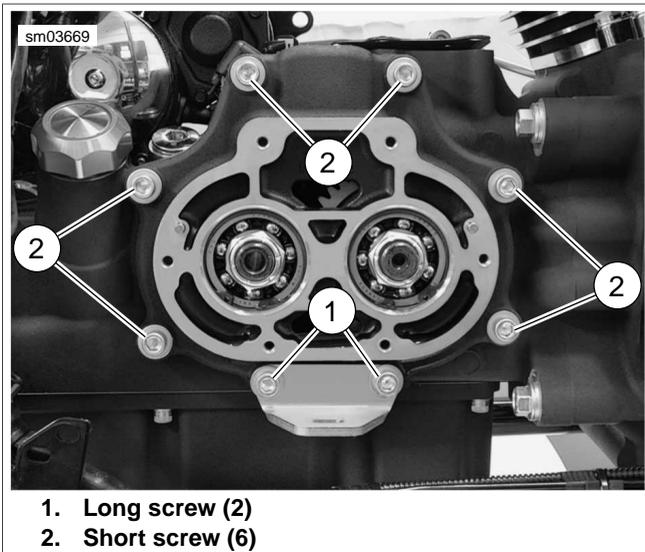

Figure 7-32. Side Door hardware
5. See Figure 7-32. Install exhaust bracket using long screws (1). Install remaining side door screws (2).